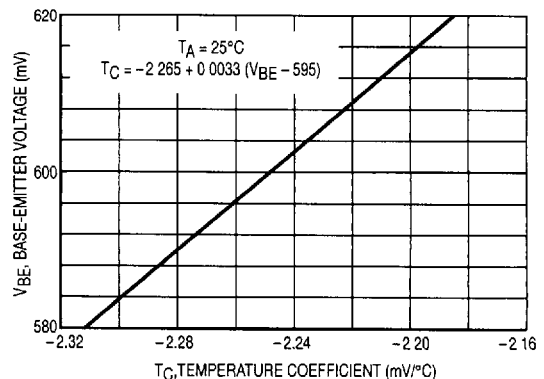

Figure 3. Temperature Coefficient versus Base-Emitter Voltage
| Dependence of T_C on V_{BE} @ 25°C ⁽⁴⁾ (Figure 3) | $\Delta T_C / \Delta V_{BE}$ | — | 0.0033 | — | $\text{mV}/^\circ\text{C}$ mV |
- b. If V_{BE} (nom) is less than or greater than 595 mV determine T_C from the relationship described in Note 4. $T_C = -2.265 + 0.0033 (V_{BE} - 595)$ or see Figure 3.